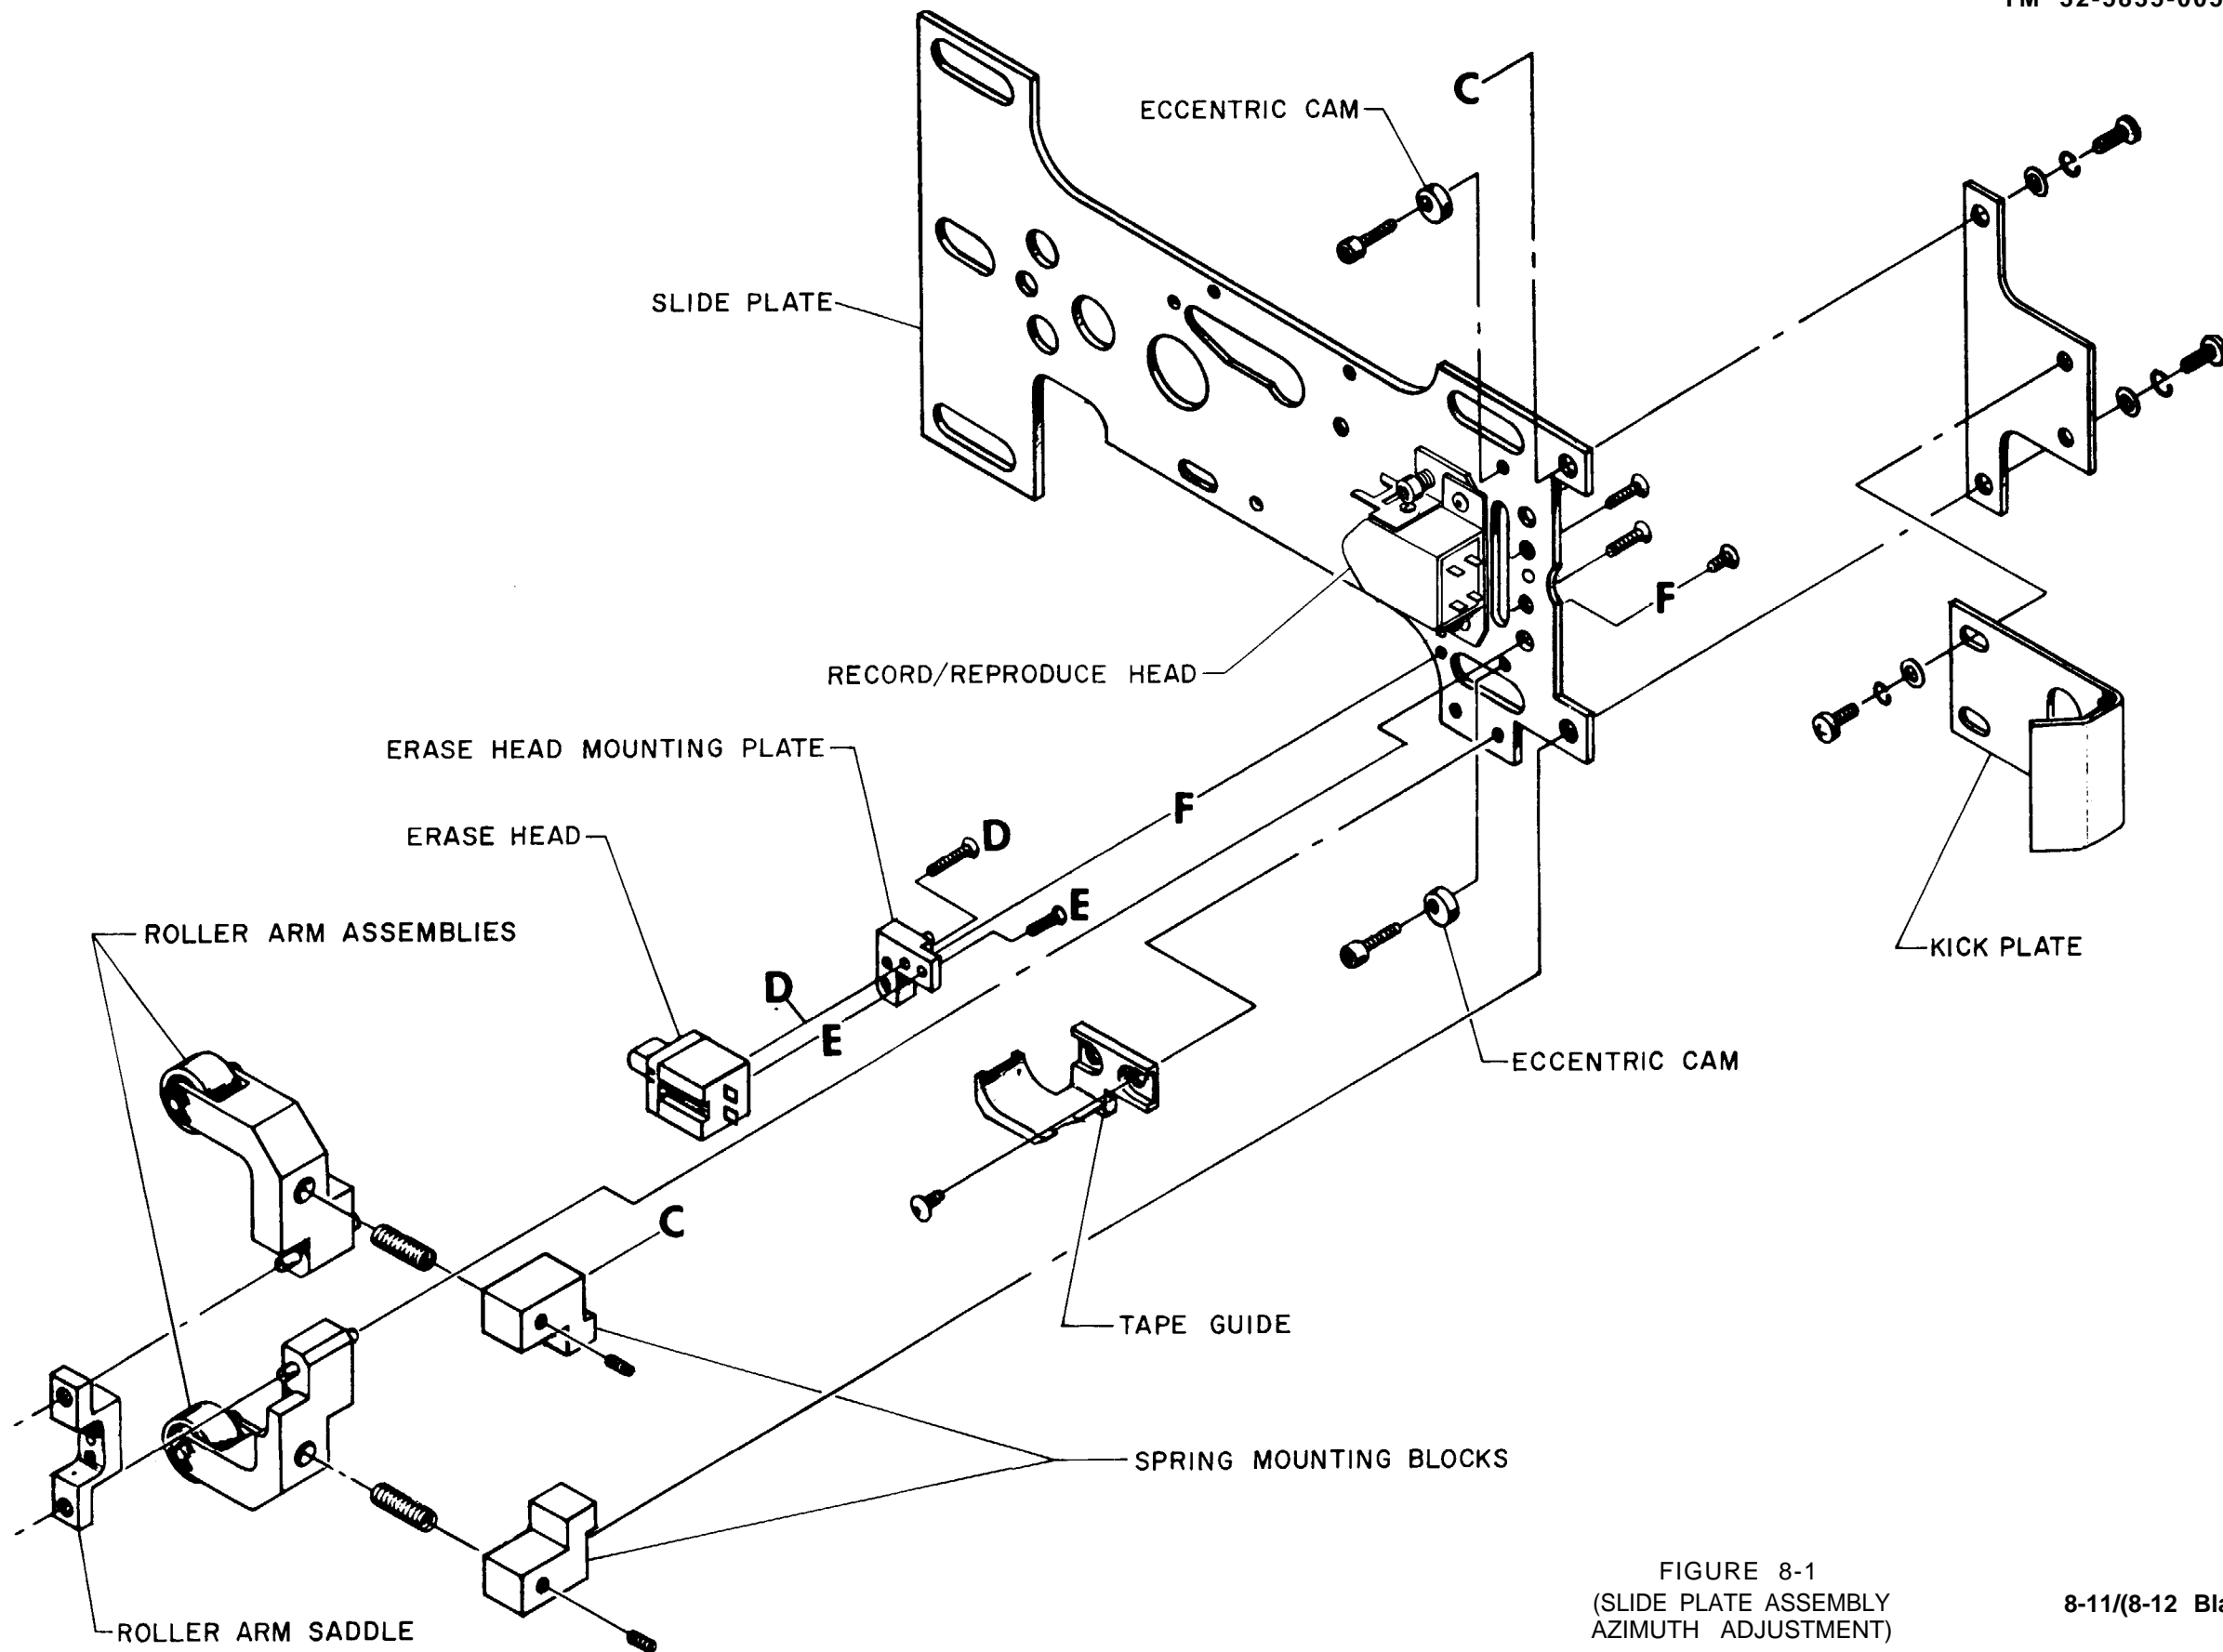

FIGURE 8-1
To replace a faulty record/reproduce head, (See Figure 8-1) disconnect leads; remove two (2) screws (.050" Allen wrench) and carefully remove head assembly. Replacement is the reverse of disassembly. Do not disturb the azimuth adjustment or head platform adjustment. Use a medium grade of thread sealer on reassembly. To replace the erase head, the cassette tray and slide assembly must be removed. See para. 8-22 for exact procedure. Having removed the slide assembly, the erase head assembly is held by 1 guide pin and a screw (Phillips #0 screwdriver). Next remove the erase head mounting foot beneath the head held with 2 screws (Phillips #0 screwdriver). Use a medium grade thread sealer on reassembly.
8-22. Slide Plate Replacement. (See Figure 8-1.)
(b) Remove pin support brackets' two (2) screws, using a #0 Phillips screwdriver. (See Figure 8-1.).